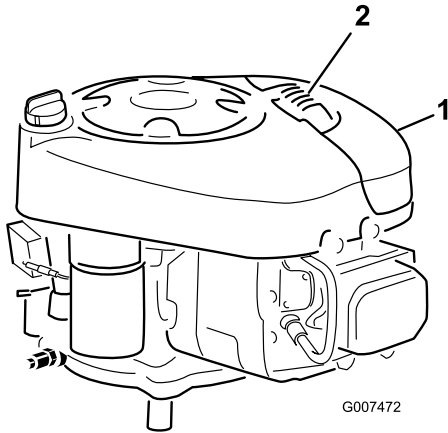

Figure 23
2. Clean around the air cleaner to prevent dirt from getting into the engine and causing damage (Figure 23).
3. Pull up on the air cleaner cover handle and rotate it toward the engine (Figure 23).